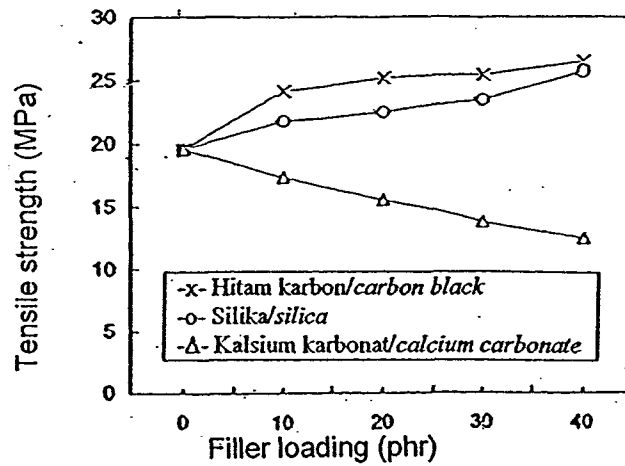
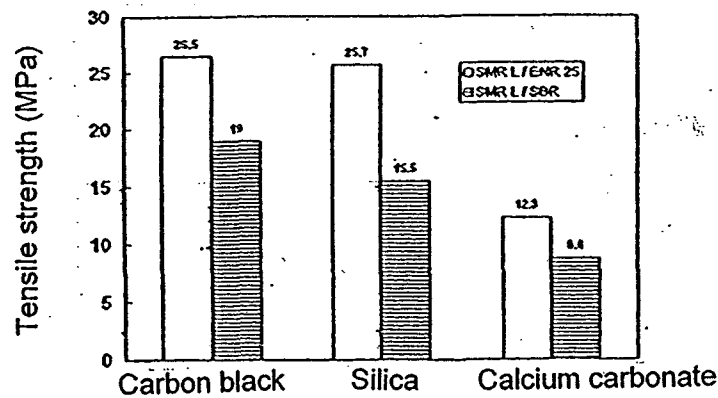

Figure 1 – Tensile strength variation with filler loading of SMR L/ENR 25 blends
Figure 2 – Tensile strength comparison between SMR L/ENR 25 and SMR L/SBR blends for various filler at 40 phr loading
- [b] Figure 1 shows the variation of tensile strength versus filler loading of SMR L/ENR 25 blends whereas Figure 2 shows the tensile strength comparison between SMR L/ENR 25 blends and SMR L/SBR blends for 3 types of filler at loading of 40 phr. Table 1 shows the physical properties of carbon black, silica and calcium carbonate. Explain the results obtained in Figure 1 and Figure 2.